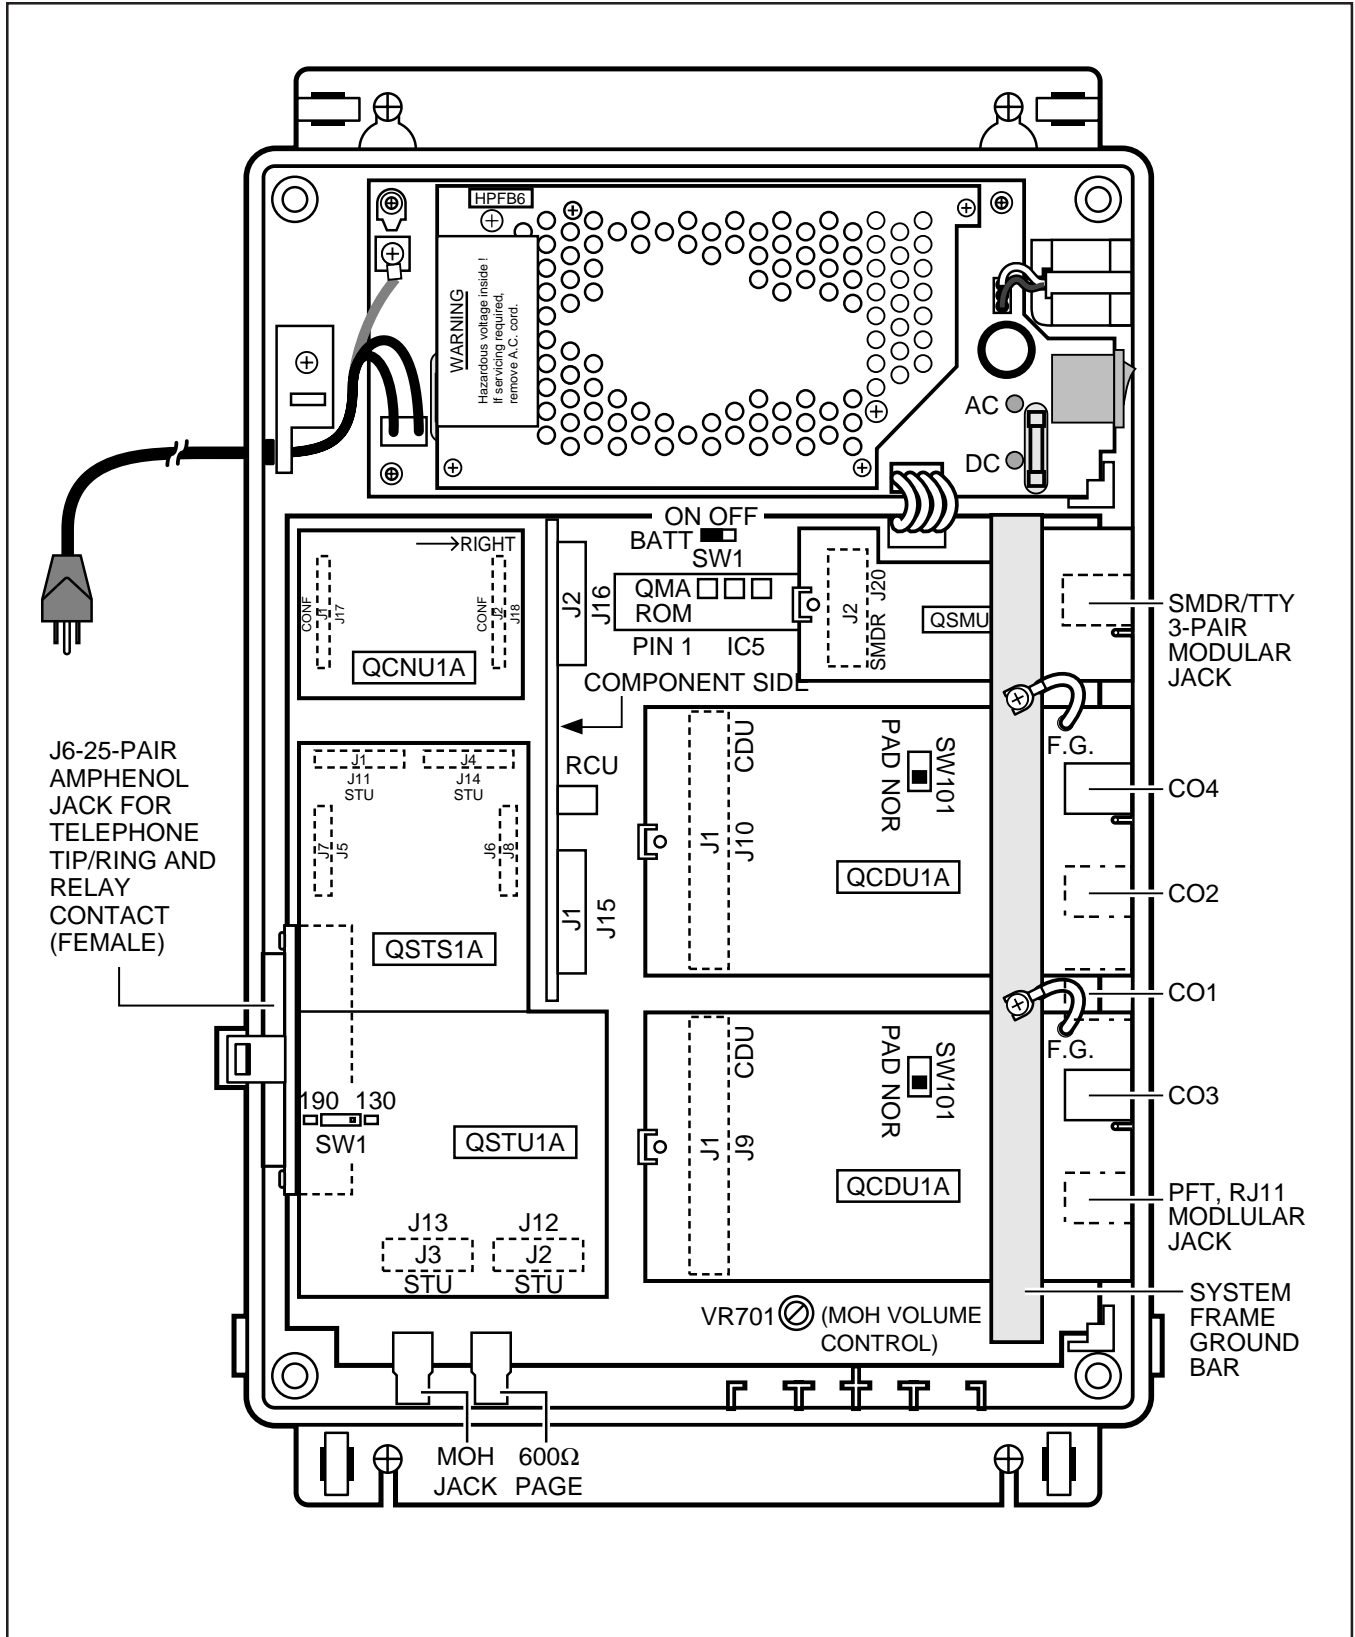

FIGURE 4-7
6.11 The KSU can support up to five optional printed circuit boards (PCBs) (Figure 4-7): it can support a maximum of two QCDUs, each of which provides one CO line circuit and two digital telephone circuits; a QSTU which provides two standard telephone circuits (ports); a QRCU which provides three circuits to receive DTMF tones (required for DISA and devices connected to QSTUs), and three circuits to detect busy tone (required for the ABR feature); and a QSMU which provides a port for either a Station Message Detail Recording (SMDR) device or a maintenance terminal or modem (System Program 10-3, LED 04) selects the function of the port — SMDR or TTY).
7.21 Install the QCDU in accordance with the following steps (Figure 4-7):
8.21 Install the QSTU in accordance with the following steps (Figure 4-7):
following steps (Figure 4-7).
- 3) Align and insert QRCU connectors **J1** and **J2** into motherboard connectors **J15** and **J16** respectively (note the component side placement in Figure 4-7), and apply firm, even pressure to ensure proper mating of connectors. Push down until connectors lock together.
10.02 The QCNU is shown in Figure 4-7.
10.21 Install the QCNU in accordance with the following steps (Figure 4-7):
- 3) Align and insert QCNU connectors **J1** and **J2** into motherboard connectors **J17** and **J18** respectively, and apply firm, even pressure to ensure proper mating of connectors. (Note the side with "→ **RIGHT**" silkscreened on it should be positioned as shown in Figure 4-7.)